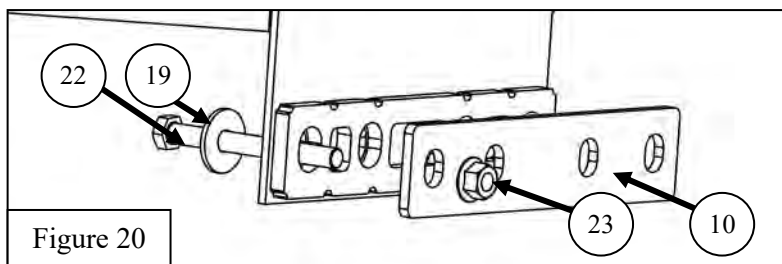

Figure 20
- When not using a hitch install the hitch delete spacer (Item 10) using (4) M12 Hex head hardware (Items 19, 22, and 23). See **Figure 20** for reference.
16. Mount bumper onto the frame of vehicle using (4) M12 Hex head hardware (item 19, 22, & 23). Hardware will go into the frame, pointing towards the back of the vehicle. See **Figure 20** for reference in direction.